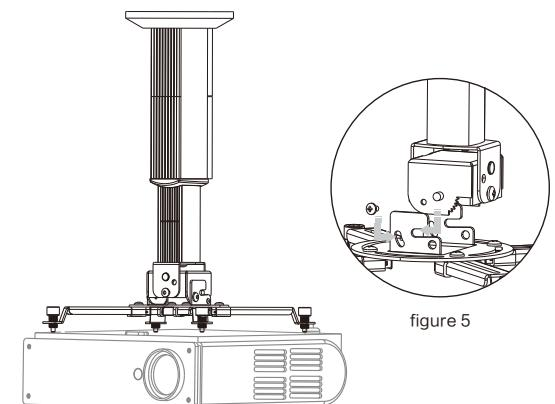

figure 5
- 3 Hang the installation bracket (projector has been installed) to the adjuster as figure 5. And then put in the screws (accessory④), but do not faster.